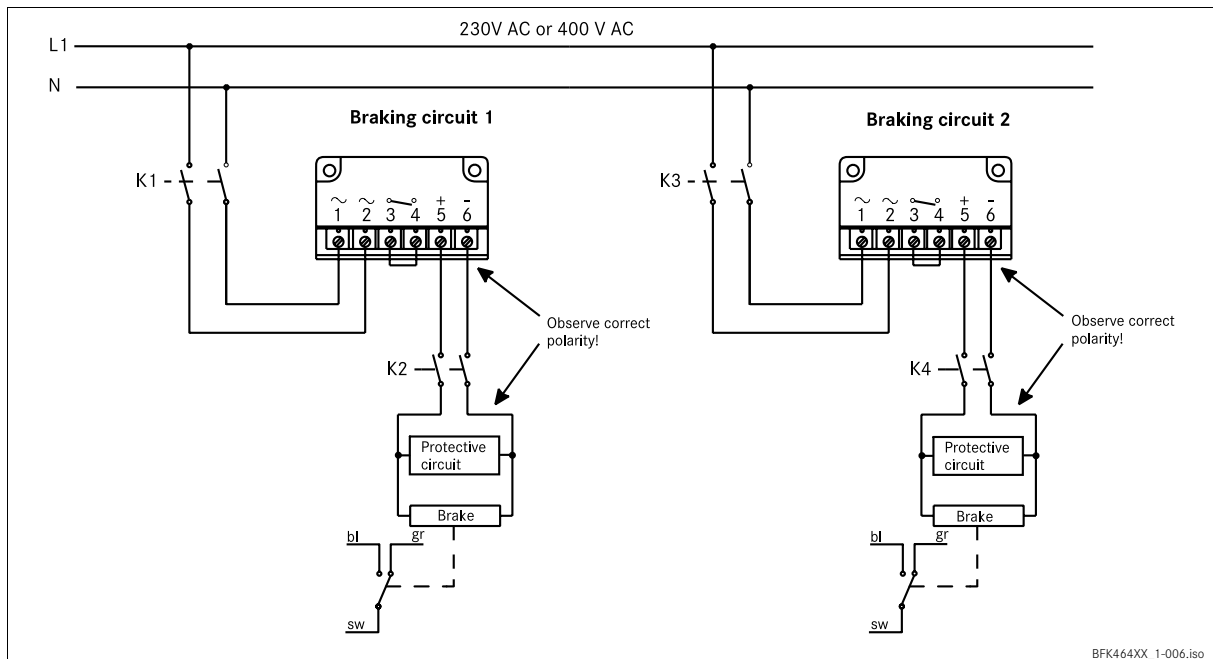

Fig. 14 INTORQ BFK464 connection diagram
- The suppressor circuit included in INTORQ switchgear BEG-561-255-130 (terminals 3 and 4) may not be used in lift or hoist applications. In this case, the suppressor circuit must be connected in parallel to the brake coil (see Fig. 14).